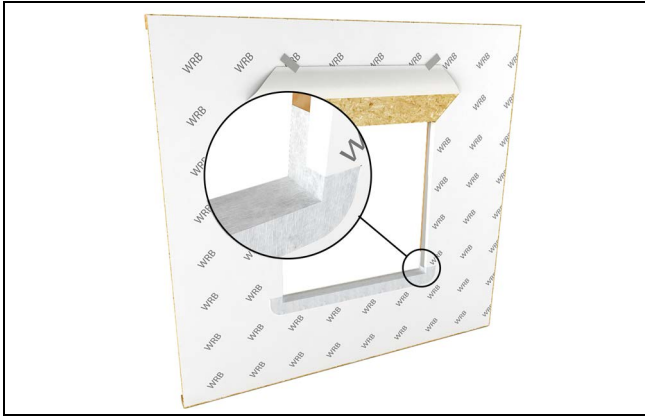

Figure 6
6. Wrap side flaps to the interior and staple in place about 1 1/2" (38) from the interior edge of the opening. Cut the excess off near the staple so that a 1"- 1 1/2" (25-38) strip of bare wood is exposed. Tape the edge with seam seal tape. See Figure 6.